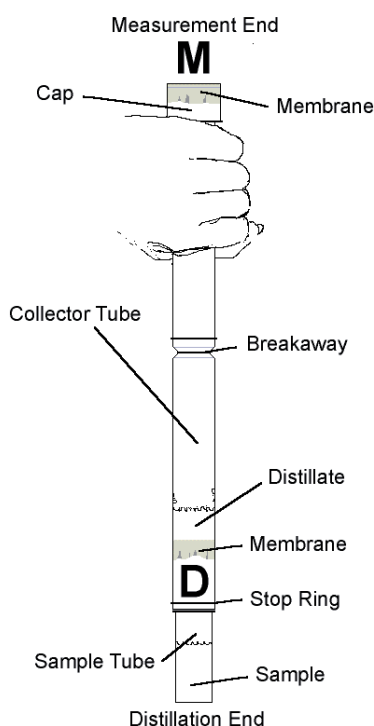

Figure 1
2. Place a **Micro Dist (MD)** collector tube (Figure 1) in a suitable holder with the **D** end facing downward.